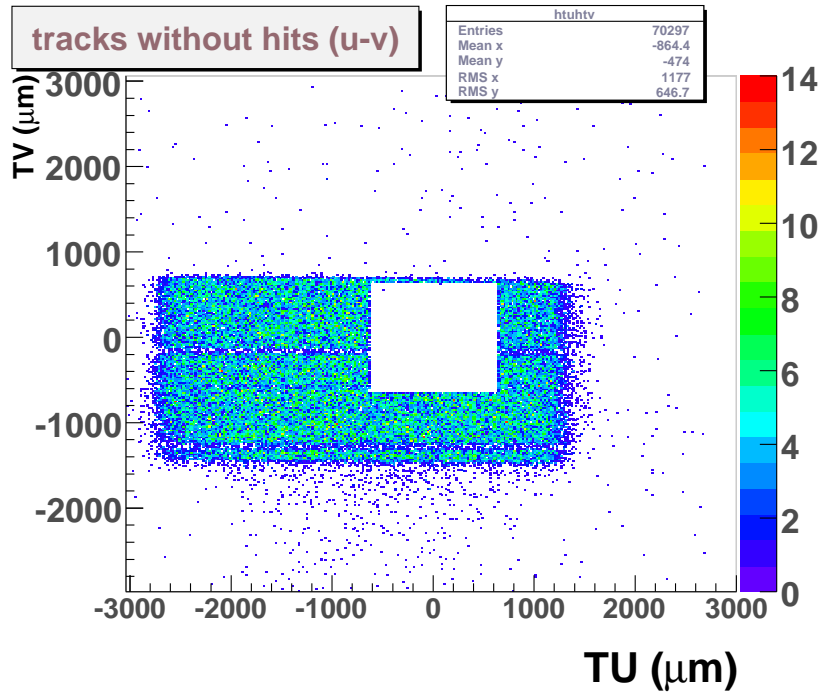

FIG. 3 – Tracks not associated to a hit in the (TU,TV) reference frame (with a good alignment)
- Now click on *Check Ref.Tracks* (or `gMAF->Checkreferencetracks()`). On Canvas 1, you can see the figure 3 (if the alignment is already correct), representing all tracks which are not associated to a hit in mimosa. It means that there are no hit closer than the *TrackHitDist* cut. The trigger used has roughly a $2 \times 4 \mu m^2$ dimension. The white square corresponds to the shadow of the analysed matrix. This plot shows that it will be necessary to remove all the tracks not going trough the detector under test. This will be done thanks to the *geomatrix* option which sets minimal and maximal value in U and V of the tracks. This plot is also